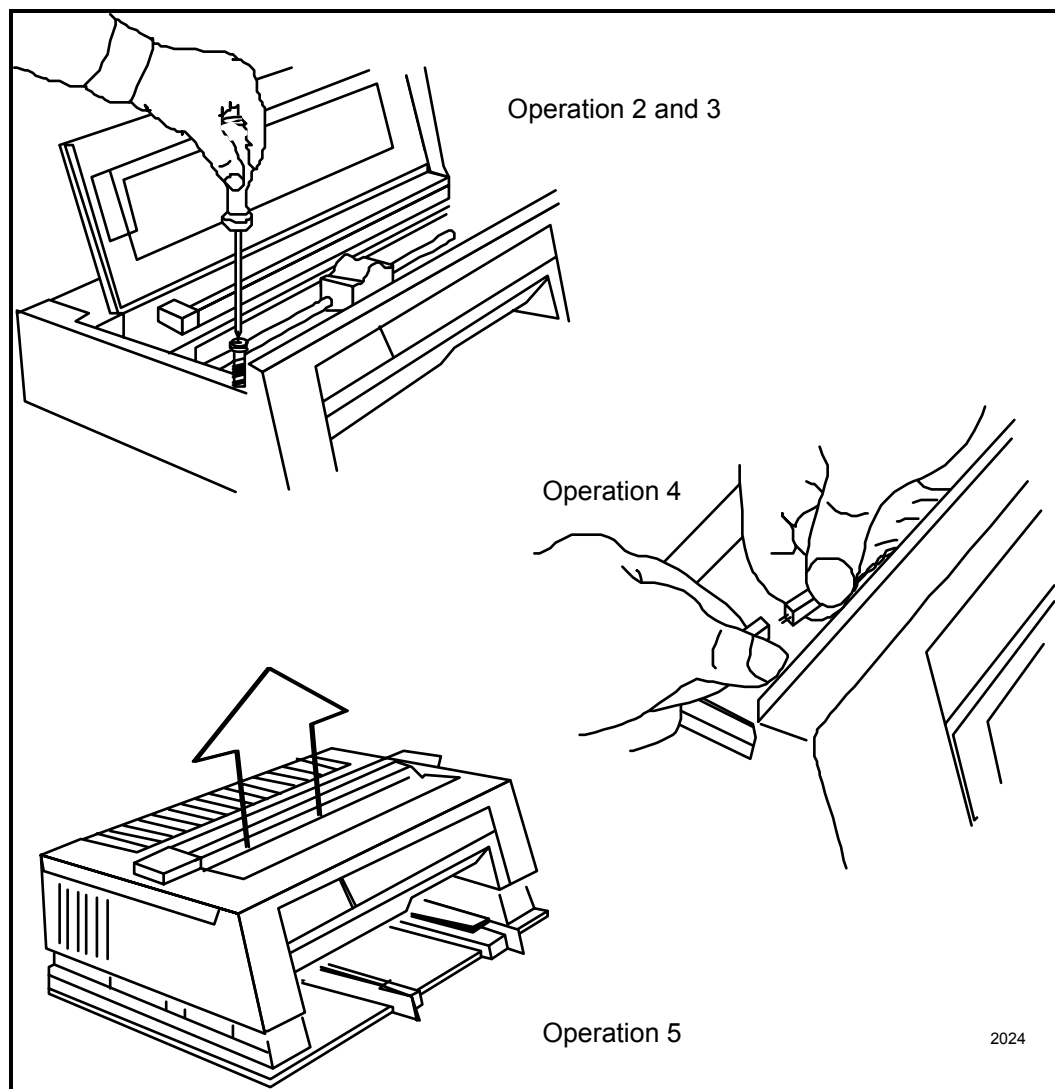

Figure 18-8 — Upper Cabinet Removal
2. Remove the two screws located under the front cover (see Figure 18-8).